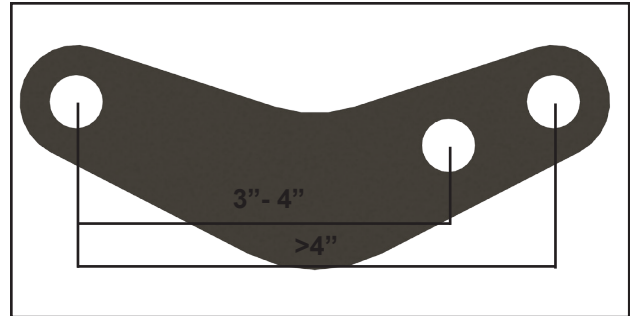

Fig.3
5. If the original shackle measures between 3" and 4", use the short set of holes on the replacement shackles (**Fig.3**). If the original shackle measures longer than 4", use the longer set of holes on the bracket (**Fig.3**).